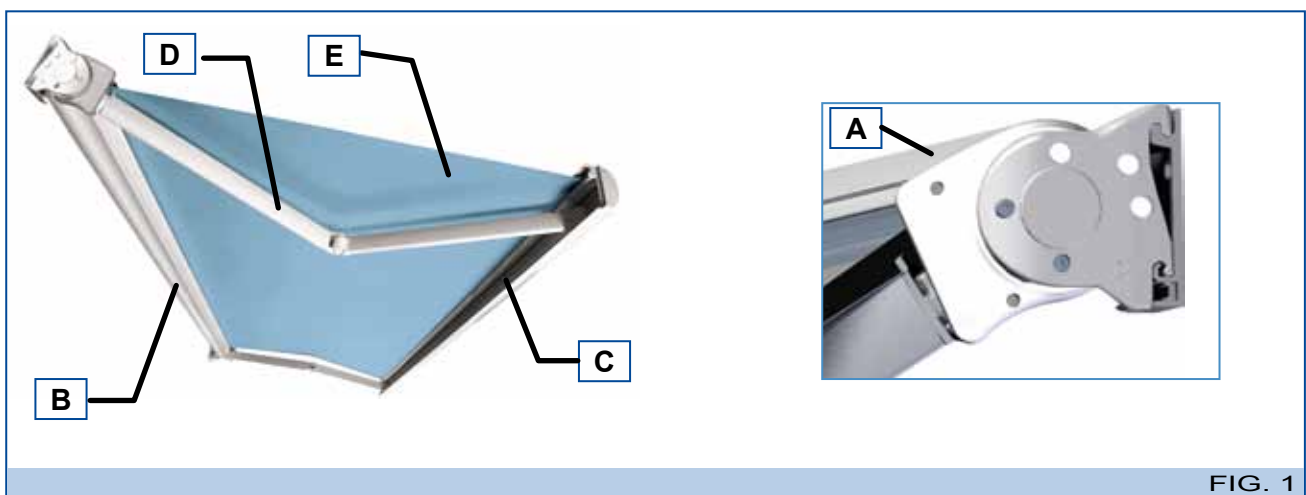

FIG. 1
- Metal structure: this consists of a frame containing the various mechanisms for opening and closing the awning. It comprises a box (A - Fig. 1), a blind roller (B - Fig. 1), a terminal bar (C - Fig. 1) and mechanised folding arms (D - Fig. 1) fitted with sheathed cables or a stainless steel chain.
- Fabric (E - Fig. 1): this covers and protects the awning.